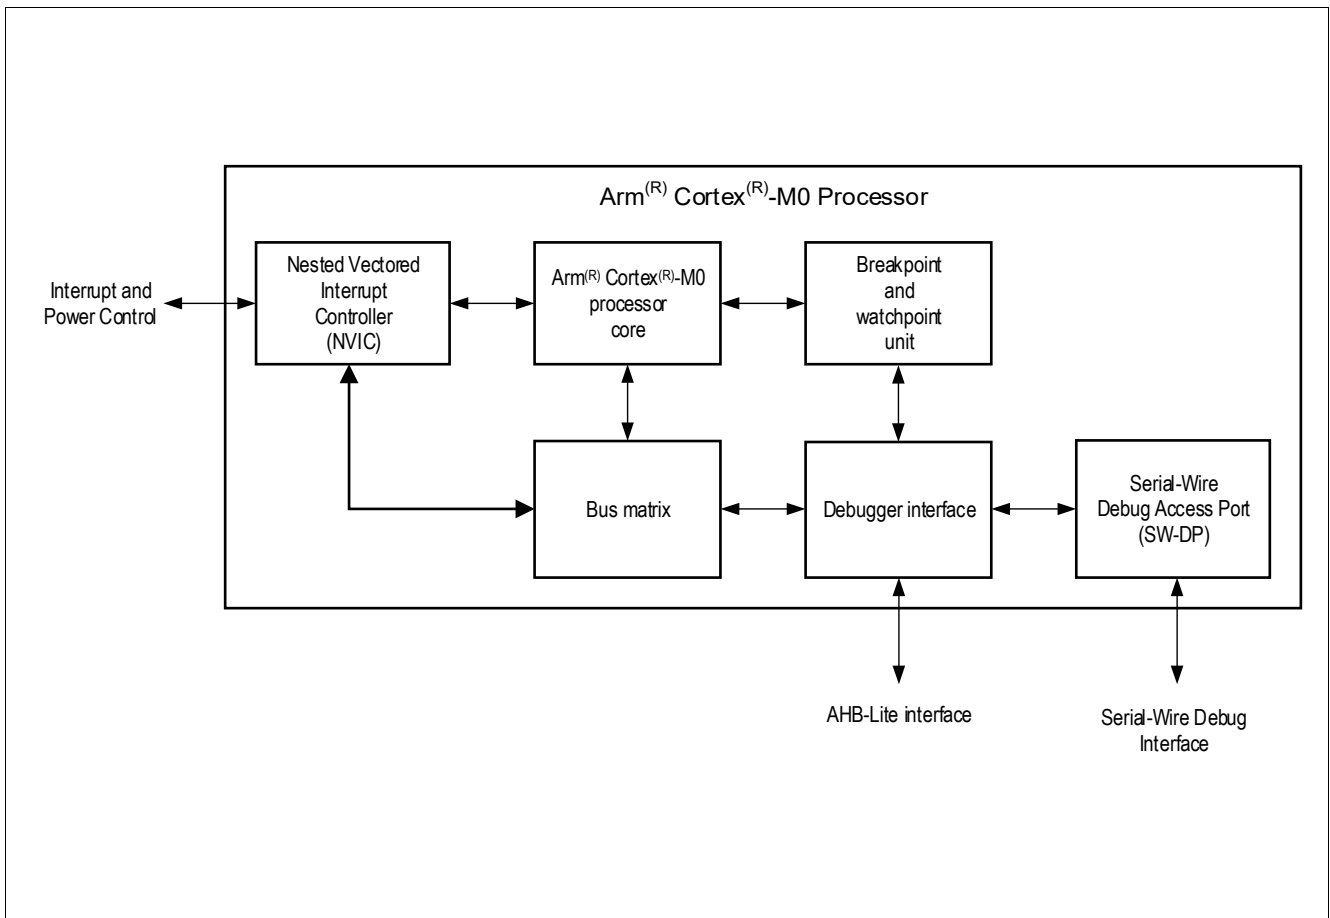

Figure 14 Arm® Cortex®-M0 Block Diagram
**Figure 14** shows the functional blocks of the Arm® Cortex®-M0.